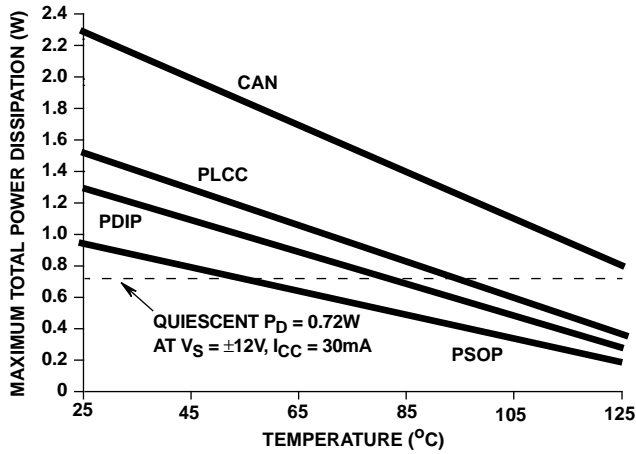

FIGURE 5. FREE AIR POWER DISSIPATION
1. Maximum power dissipation, including load conditions, must be designed to maintain the maximum junction temperature below 175°C for the metal can package, and below 150°C for the plastic packages (See Figure 5.).
3. Maximum operating temperature in the PSOP package is limited to 60°C , for $V_{\text{SUPPLY}} = \pm 12\text{V}$ to prevent the junction temperature from exceeding 150°C . The maximum operating temperature may have to be derated further, depending on the output load condition. The operating temperature may be increased if the HA9P5033 is operated at lower V_{SUPPLY} . For example, the quiescent operating temperature may be increased to 75°C by operating at $V_{\text{SUPPLY}} \leq \pm 9.7\text{V}$. See Figure 5 for more information.